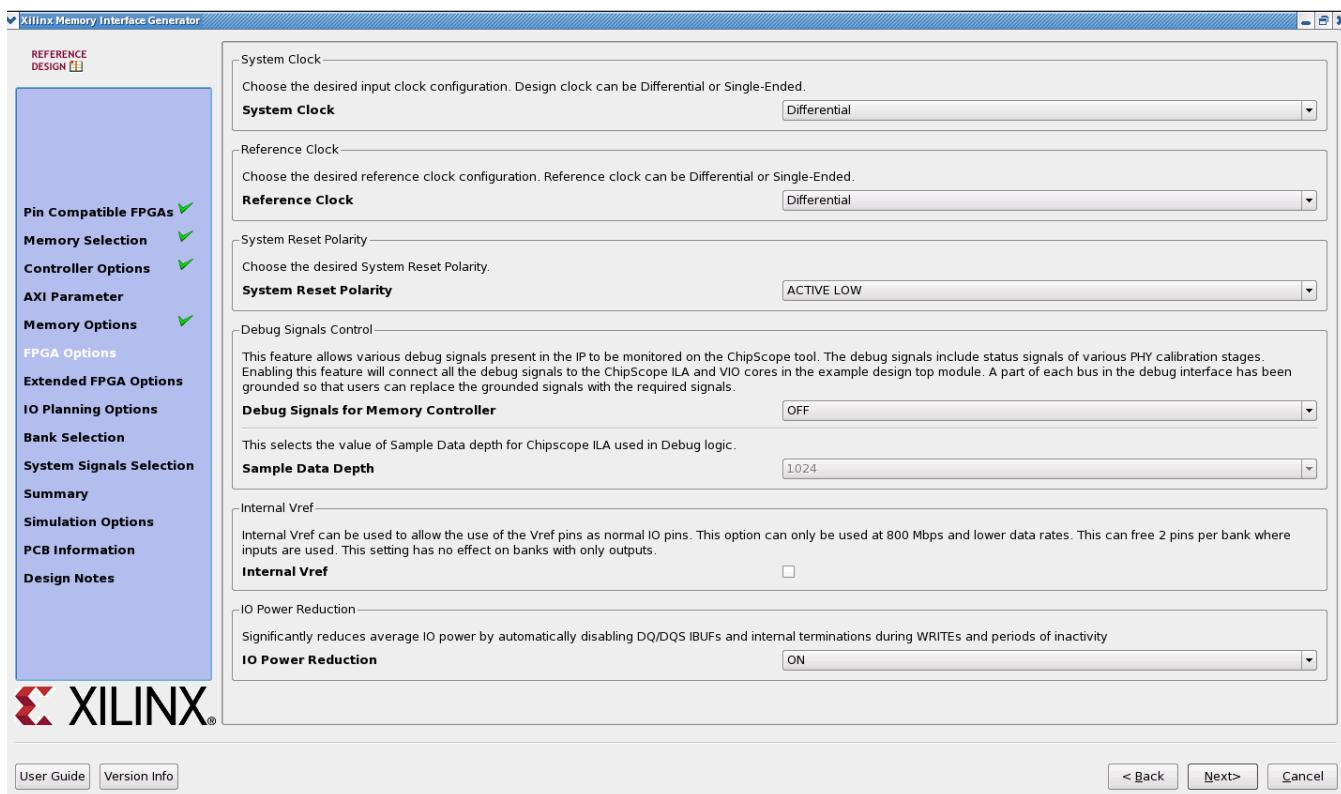

Figure 4-21: **FPGA Options**
Figure 4-21 shows the **FPGA Options** page.
- **sys\_clk** – This is the system clock input for the memory interface and is typically connected to a low-jitter external clock source. Either a single input or a differential pair can be selected based on the **System Clock** selection in the **FPGA Options** page (Figure 4-21). The sys\_clk input must be in the same column as the memory interface. If this pin is connected in the same banks as the memory interface, the MIG tool selects an I/O standard compatible with the interface, such as DIFF\_SSTL12 or SSTL12. If sys\_clk is not connected in a memory interface bank, the MIG tool selects an appropriate standard such as LVCMOS18 or LVDS. The XDC can be modified as desired after generation.
- **clk\_ref** – This is the reference frequency input for the IDELAY control. This is a 200 MHz input. The clk\_ref input can be generated internally or connected to an external source. A single input or a differential pair can be selected based on the **System Clock** selection in the **FPGA Options** page (Figure 4-21). The I/O standard is selected in a similar way as sys\_clk.
- **sys\_rst** – This is the asynchronous system reset input that can be generated internally or driven from a pin. The MIG tool selects an appropriate I/O standard for the input such as LVCMOS18 and LVCMOS25 for HP and HR banks, respectively. The default polarity of sys\_rst pin is active-Low. The polarity of sys\_rst pin varies based on the **System Reset Polarity** option chosen in **FPGA Options** page (Figure 4-21).